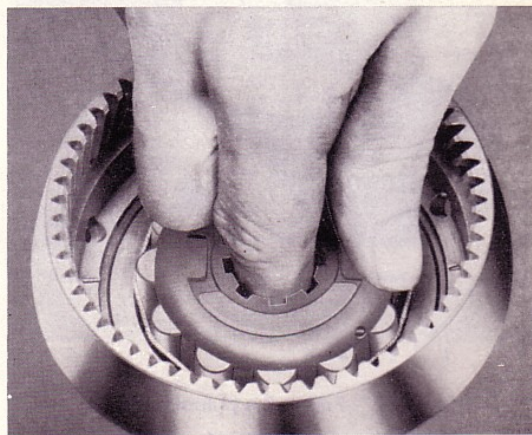
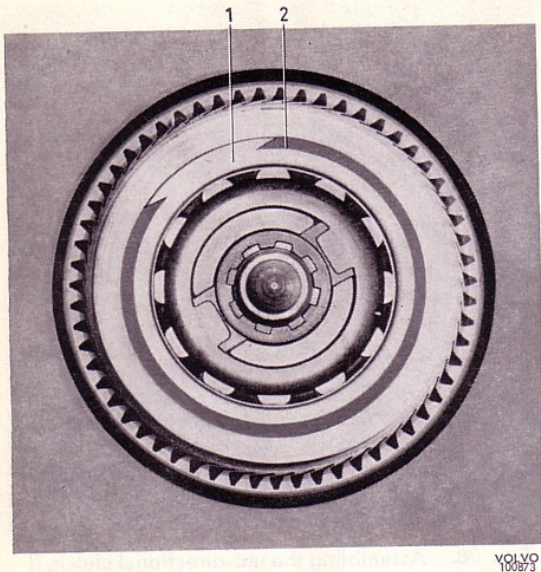

Fig. 29. Fitting the uni-directional clutch
Fig. 30. Fitting the oil thrower
6. Fit the thrust washer and then the uni-directional clutch in position on the output shaft, see Fig. 29. Fit the oil thrower and secure it with the circlip, see Fig. 30.